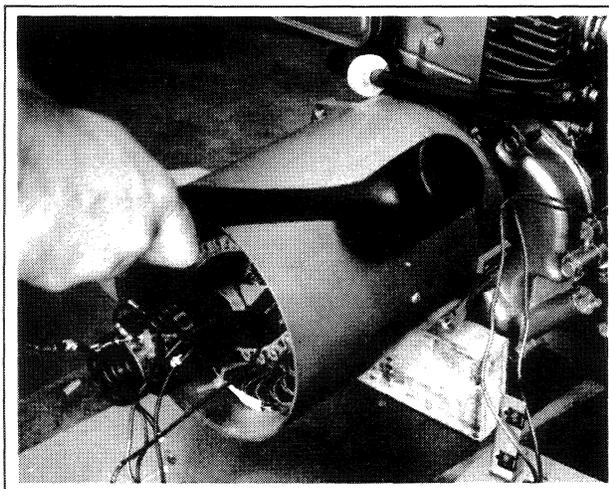

Figure 2-17. Removing Stator
13. Remove stator by bumping with a soft hammer and pulling at the same time, Figure 2-17.